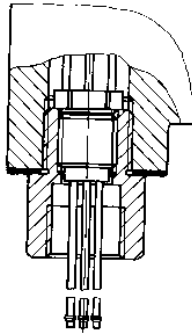

Fig. 6.2
**Type 6115-12** · i/p converter, threaded conductor bushing and tube connection (Fig. 6.2) for indirect cable entry according to DIN EN 50 018.